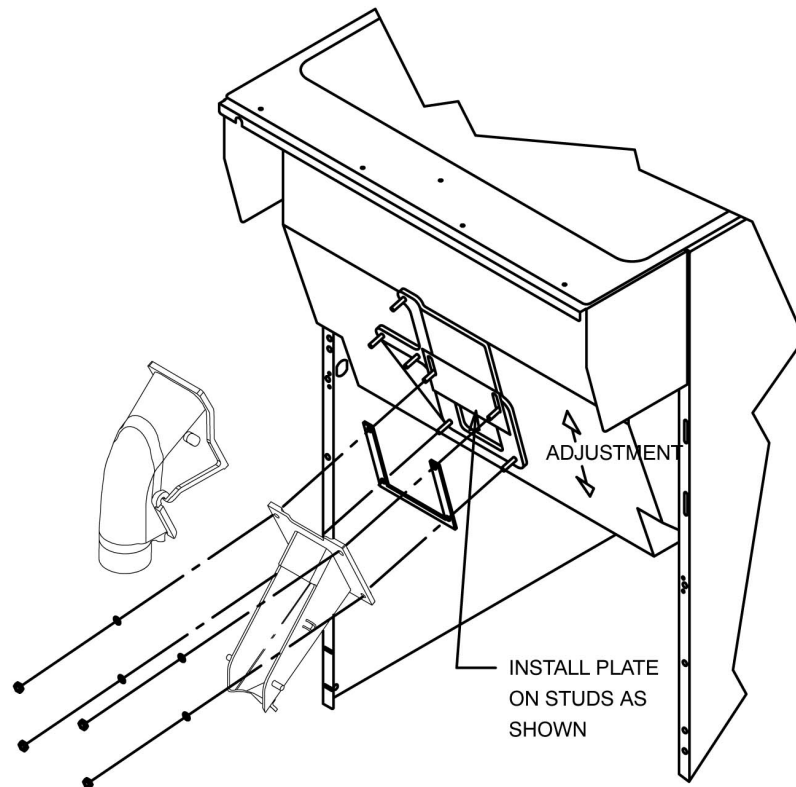

Figure 2. Gate Restrictor Plate
3. DRIP TRAY DRAIN ASSEMBLY (see Figure 2): Route the drain tube to an open drain with the end of the tube above the "flood" level of the drain. Use the tubing, fittings, clamps, and insulation provided with the Dispenser to assemble the drain. The completed drain line *must* pitch continuously downward and contain no "traps" or improper drainage will result.